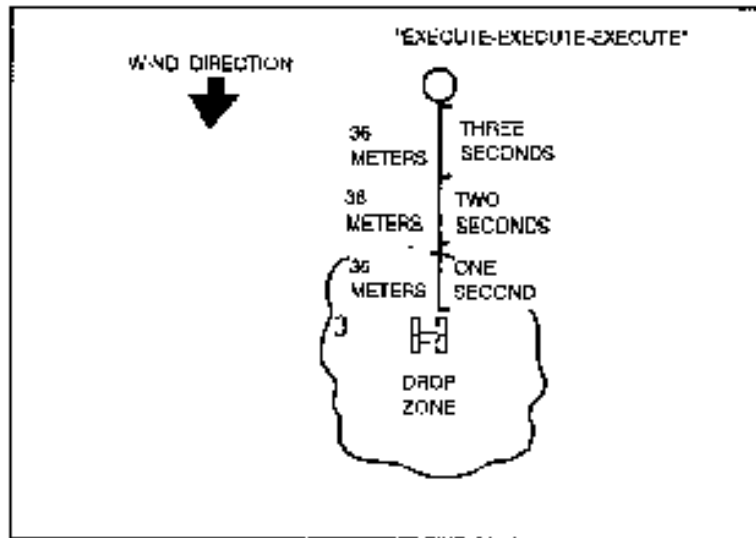

Figure 6-8. Army VIRS off-set.
f. On an Army VIRS DZ where the RP is in the woodline, an off-set may be used (Figure 6-8). For example, a UH-1H is traveling 70 knots. Converted to meters per second, this is about 36 meters per second. If the RP is 108 meters into the woodline, the GTA operator will allow the aircraft to pass the code letter. As the aircraft passes over the code letter, the GTA operator will begin counting "one thousand, two thousand, three thousand." At the end of three seconds, the GTA operator will transmit, "Execute, execute,